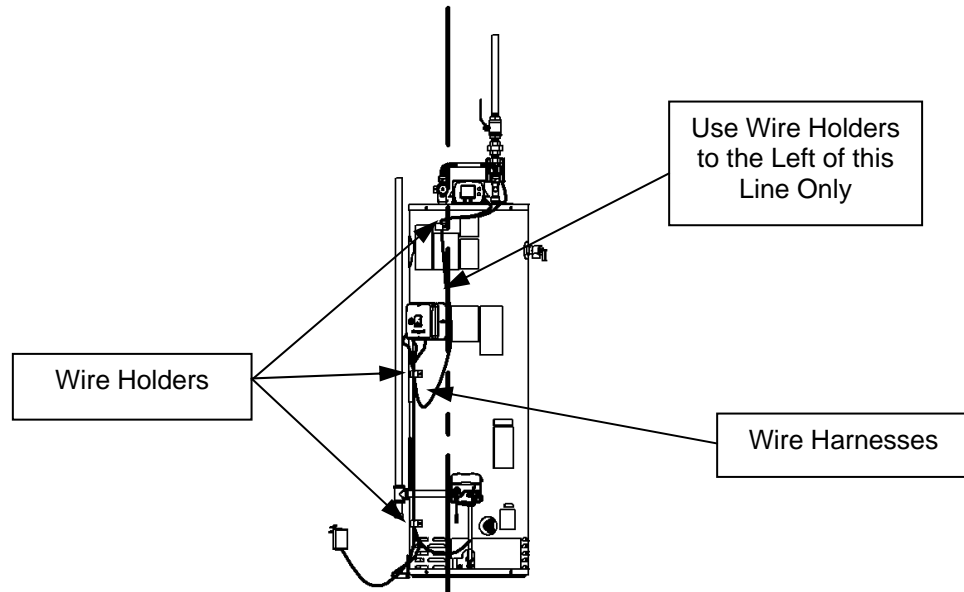

Figure 106
Step 5: Using the included wire holders, fix the wire harnesses to the water heater jacket only to the left of the water heater gas control, as shown in Figure 106. Wire holders can be used to fix the wire harnesses to the water heater jacket only to the left of the water heater gas control.